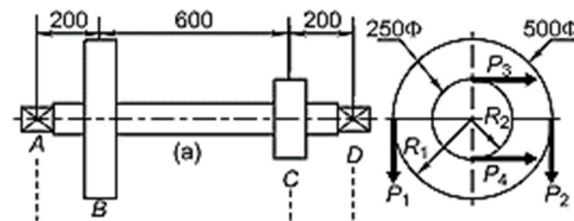

Figure 3
- ii. The layout of a transmission shaft carrying two pulleys B and C and supported on bearings A and D is shown in figure 3. Power is supplied to the shaft by means of a vertical belt on the pulley B, which is then transmitted to the pulley C carrying a horizontal belt. The maximum tension in the belt on the pulley B is 2.5 kN. The angle of wrap for both the pulleys is 180° and the coefficient of friction is 0.24. The shaft is made of plain carbon steel 30C8 ($S_{yt} = 400 \text{ N/mm}^2$) and the factor of safety is 3. If the larger pulley has the diameter of 300mm and smaller one has 150mm diameter. Determine the shaft diameter on strength basis.